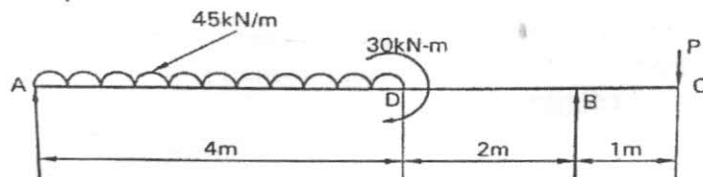

Figure Q6(a)
6. For the beam shown in Figure Q6(a) determine the magnitude of the load P acting at C, such that the reaction at supports A and B are equal. Draw the shear force and bending moment diagrams. Locate the point of contra-flexure.